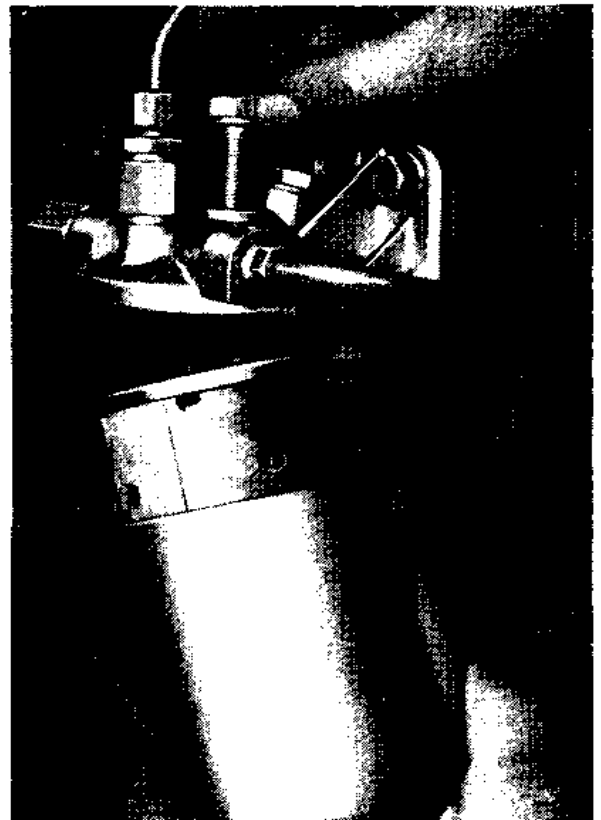

Fig. 16
- (c) Lower the filter bowl clear (see fig. 16) and discard the fuel therein together with the old element.